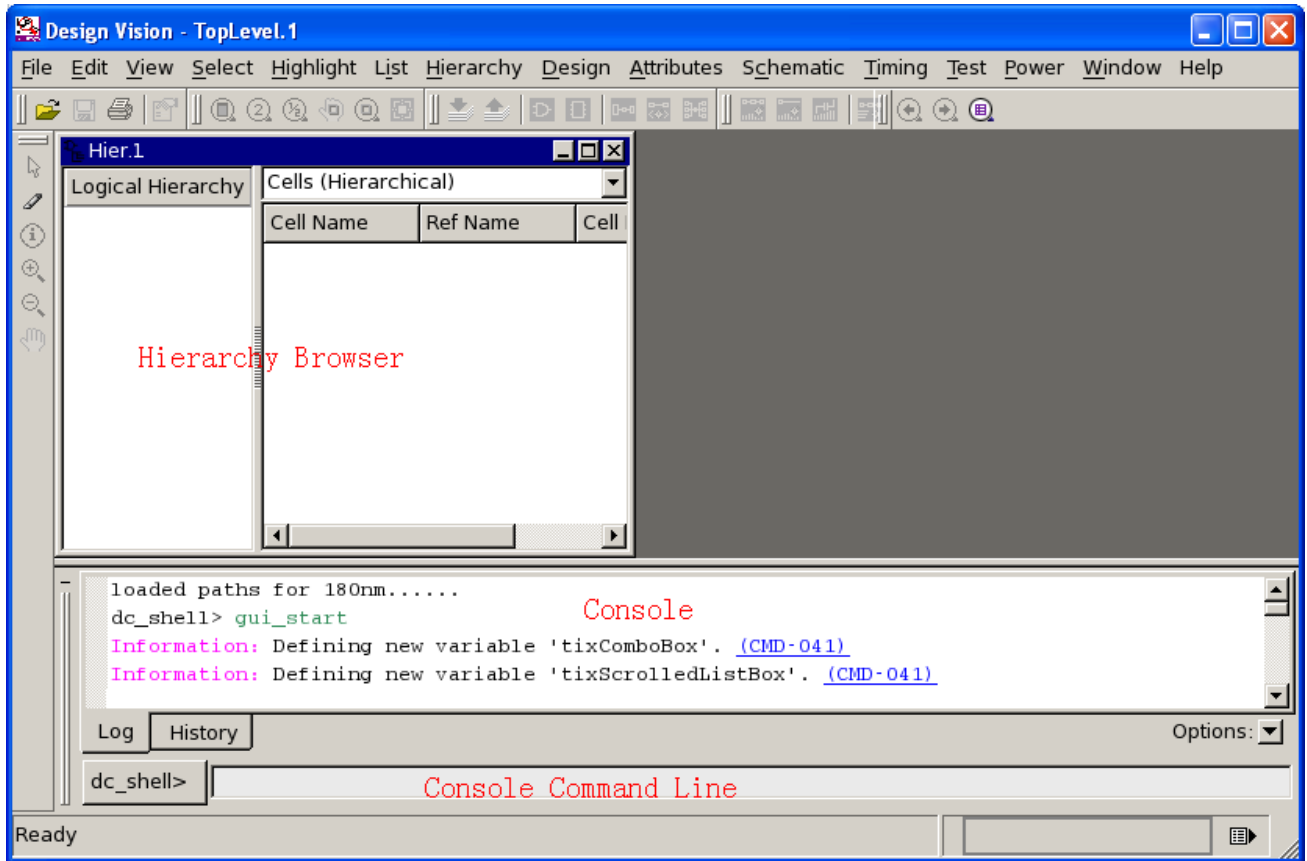

Figure 1.4
- a) Design Vision is the GUI for Design Compiler. Invoke Design Vision with command “gui\_start” in dc\_shell. In a moment, you should see a window similar to Figure 1.4.